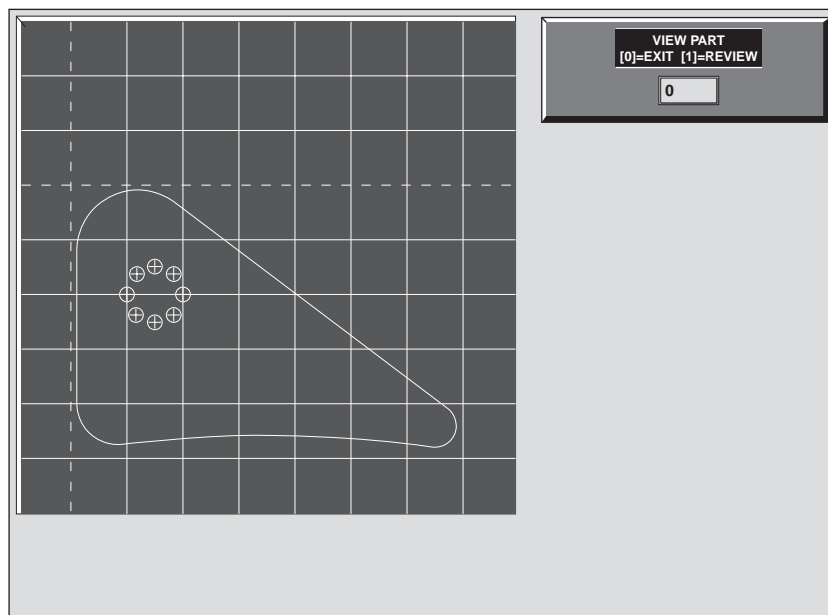

Figure 8-3
***VIEW PART** The **VIEW PART** command displays the part program geometry on the screen (Figure 8-3). The operator is prompted for the first line number to be viewed, and the last number to be viewed. When the part is viewed, a prompt appears to either **EXIT** the VIEW PART mode, or **REVIEW**. The **REVIEW** command allows the user to enter new line numbers to view the part again.